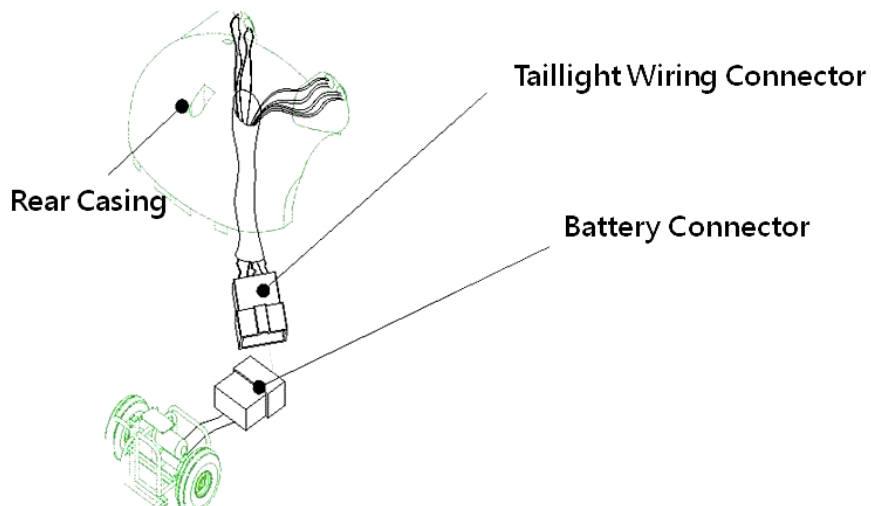

FIGURE 7.7
7.7.1.4. Remove the rear casing. (See Figure 7.7)